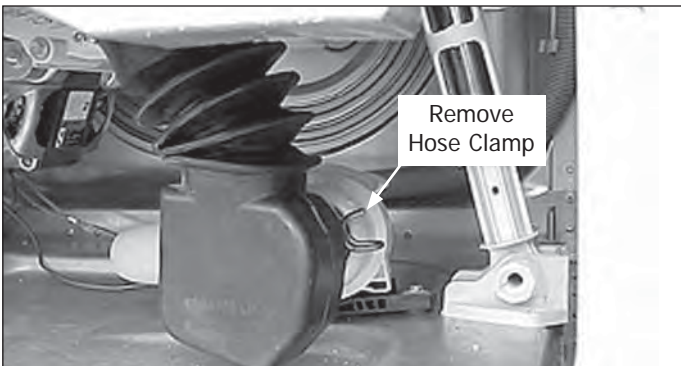

Figure 4-80.
3. Release the clamp at the pump. (See Figure 4-80)